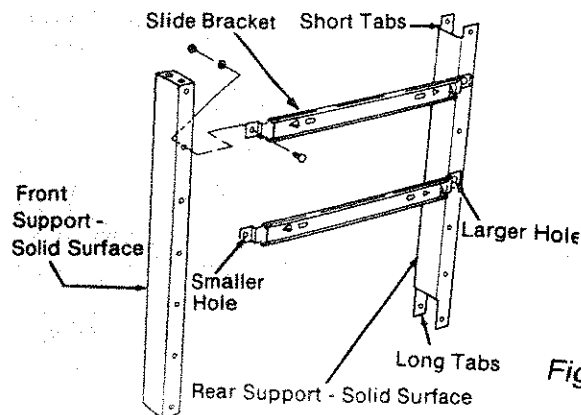

Fig. 30
34. Put the *upper support* in place between the *rear* and *front supports*. Make sure that the *upper support* is inside the surfaces of the other two parts. (Figure 30)
35. Put the last *slide bracket* in place on the right side of the *front* and *rear supports*. Make sure that the larger hole in the *slide bracket* is in line with the *rear support*. (Figure 30)